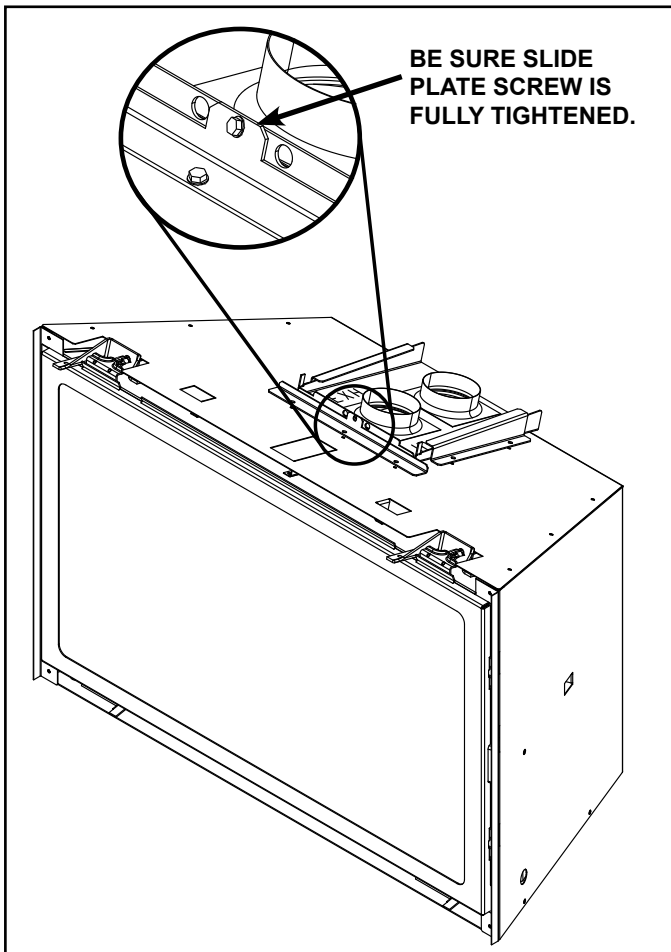

Figure 3.5 Collar Slide Plate Screw Detail
- Verify collar slide plate screw is attached see Figure 3.5.